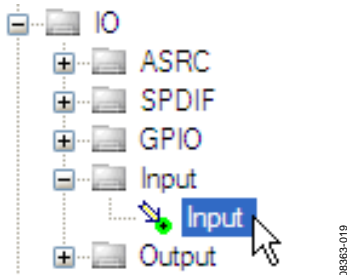

Figure 19. Locating an Input Cell
- b. Locate an **Input** cell, as shown in Figure 19.